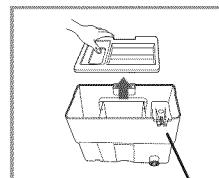

Fig.1
Pull the bucket out. Lift off bucket cover. (Fig.1) Clean the inside of bucket every week using mild detergent in order to block buildup of mold and bacteria. (Fig.2)
1. Snap open the bottom tab of filter located below the of side grill. (Fig.1)